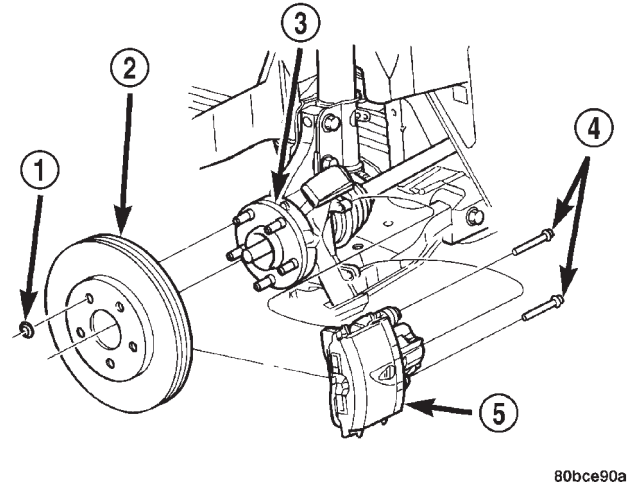

Fig. 20 Brake Caliper And Rotor
(1) Raise the vehicle. Refer to **HOISTING** in the **LUBRICATION AND MAINTENANCE** group for the proper lifting procedure.
(2) Remove the front tire and wheel assembly.
(3) Remove the two guide pin bolts securing the front disc brake caliper to the steering knuckle (Fig. 20).
(4) Remove the disc brake caliper from the steering knuckle. The caliper is removed by first tipping either the top (right side) or bottom (left side) of the
(5) Hang the caliper out of the way using a wire hanger or cord. Do not support the caliper by letting it hang by the hydraulic hose.
(6) Remove any retainer clips from the wheel mounting studs. Remove the brake rotor from the front hub (Fig. 20).
(2) Tighten the wheel mounting nut. This will pull the wheel mounting stud into the flange of the hub. When the head of the stud is fully seated against the rear of the hub flange, remove the wheel mounting nut and washers from the stud.
(3) Install the brake rotor on the hub (Fig. 20).
(4) Install the disc brake caliper (with pads) on the brake rotor and steering knuckle. The left side caliper is installed by first sliding the top of the caliper past the top abutment on the steering knuckle to hook the top edge of the caliper, then pushing the
(5) Install the two guide pin bolts securing the front disc brake caliper to the steering knuckle (Fig. 20). Tighten the guide pin bolts to a torque of 22 N·m (192 in. lbs.).
(6) Install the tire and wheel assembly. Install the wheel mounting nuts and tighten them to a torque of 135 N·m (100 ft. lbs.).
(7) Lower the vehicle.